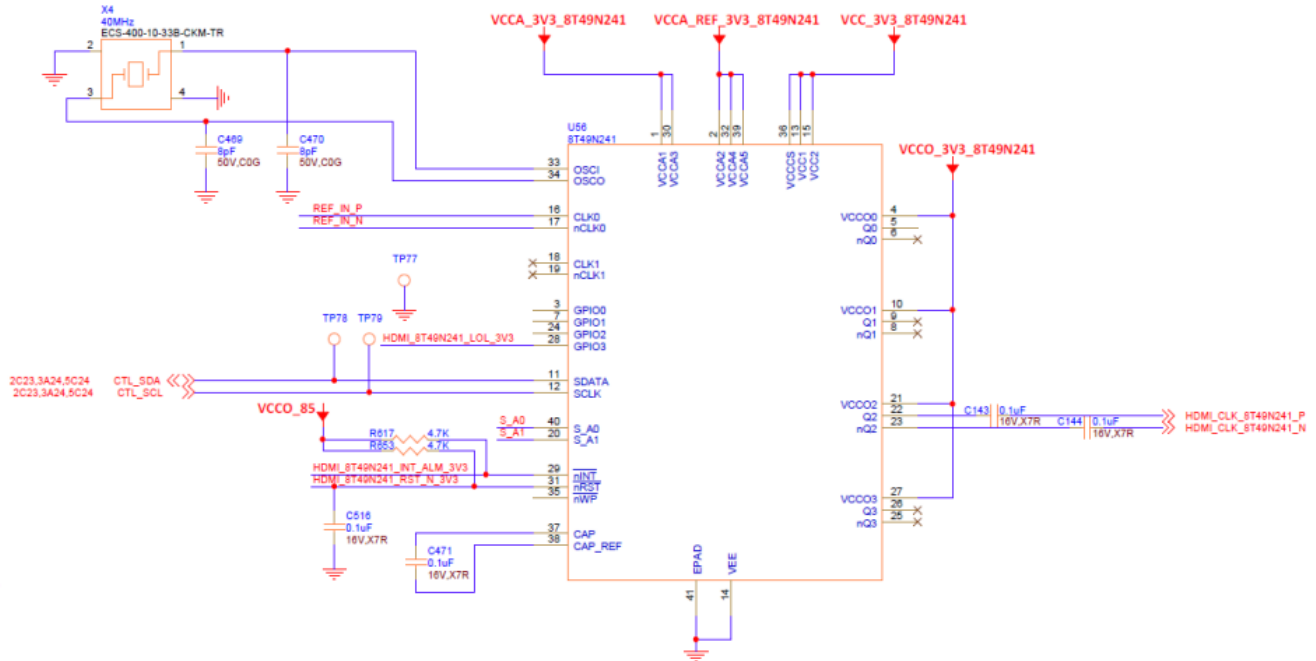

Figure 13 – First Programmable Clock Source
- The first programmable clock source circuit is shown in Figure 13.